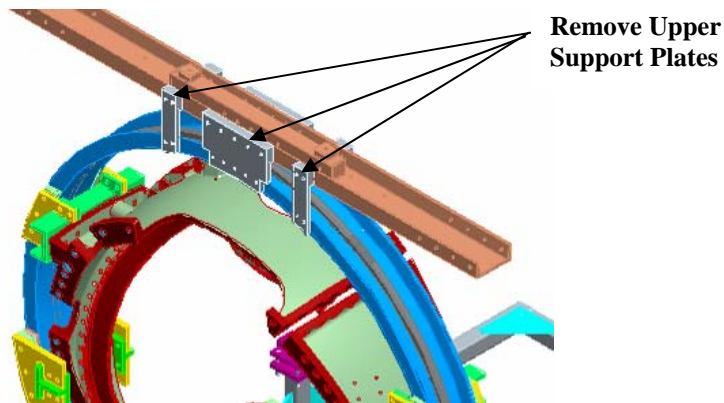

Figure 3- Upper Support Plates
- Install the upper support plates that secure the support ring to the support/lift beam. This operation must be verified prior to proceeding. See Figure 3- Upper Support Plates
- Remove the upper support plates between the support-ring and lift beam. This operation must be verified prior to operating turning fixture. [See Figure 3- Upper Support Plates]